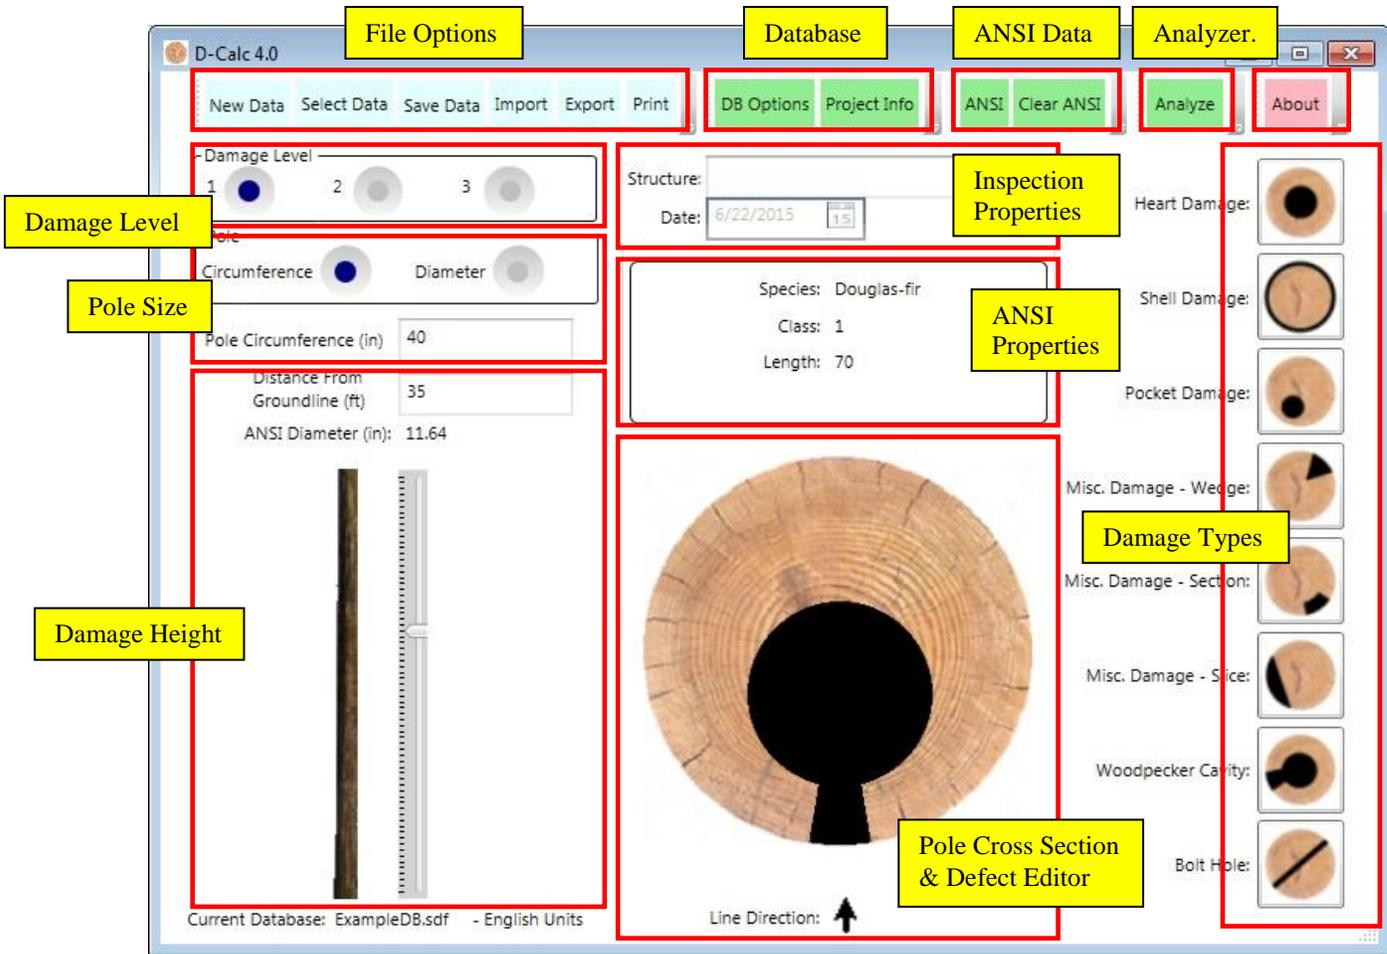

Figure 3-1. D-Calc 4 Main Form.
The **main form** of D-Calc 4 is shown in Figure 3-1. The interface has ten (10) major components:
Each of these components is shown in Figure 3-1, and explained below.